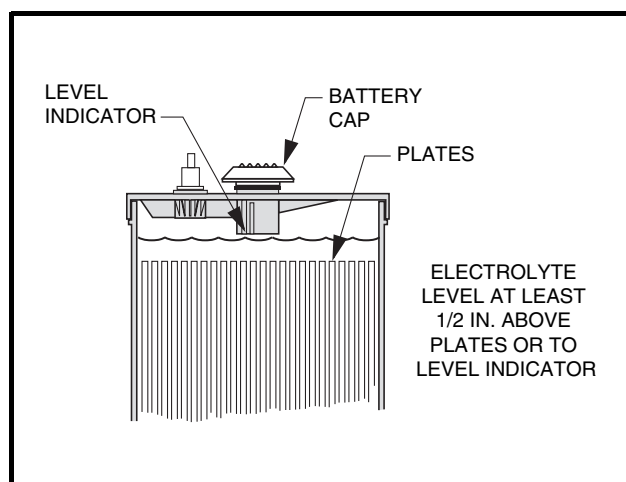

Figure 10 Electrolyte Level in Batteries
2. The electrolyte level in the batteries should be checked weekly (**See Figure 10, Page 23, for proper level**). Add water only after charging unless the electrolyte level is below the top of the plates. In this case, add just enough water to cover the plates, charge and then check the level again. Never charge batteries if plates are exposed above electrolyte level. For best battery life, use only distilled water. **See following NOTE.**